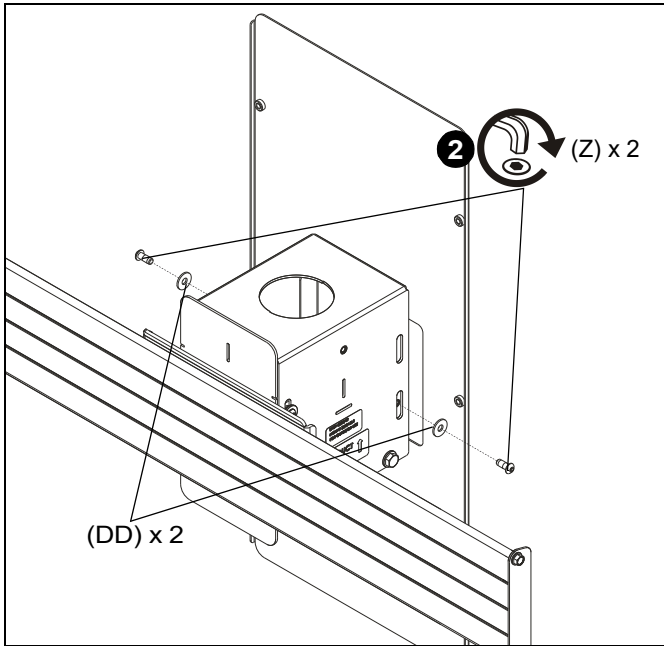

Figure 9
- Use two 1/4-20 x 5/8" cap screws (Z) and two 1/4" washers (DD) to secure center wind shield (K) to sides of each mount assembly (H). (See Figure 9)